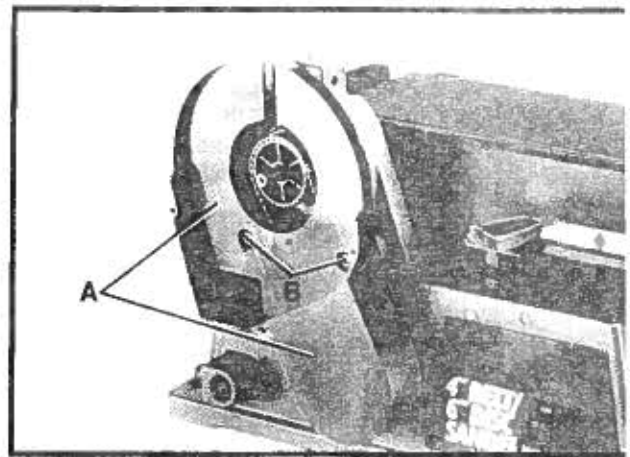

Fig. 5
1. Assemble the belt and pulley guard (A) Fig. 5, to the machine base using the two 1-3/16" (30mm) long screws (B), as shown.